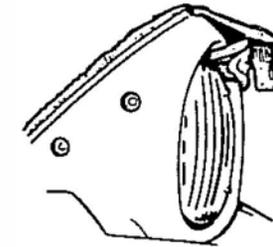
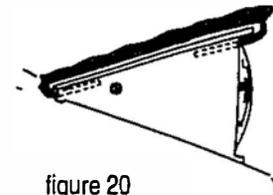

figure 19
figure 20
3.3 Insert the forward mounting tab(s) into the space between the headlight and the sheetmetal, the headlight and the bezel, or between the sheetmetal and bezel as shown in figures 19 & 20. Lower the headlights and stretch the material so that the material can be wrapped over the trailing edge of the headlight door. The rear mounting tab inserts into the space behind the headlight as shown in figure 20. When correctly installed, the headlights can be raised or lowered without interfering with the normal movement of the headlights and without affecting the tension of the vinyl as it stretches over the headlight door.